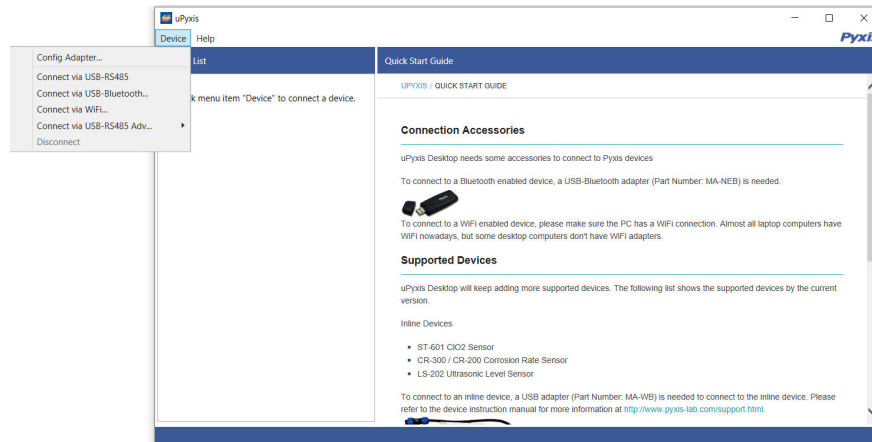

Figure 11.
3. On **uPyxis®** Desktop App, click Device → **Connect via USB-Bluetooth** or **Connect via USB-RS485** (Figure 11).
4. If the connection is successful, the ST-565 Series and its Serial Number (SN) will be displayed in the left pane of the **uPyxis®** window.